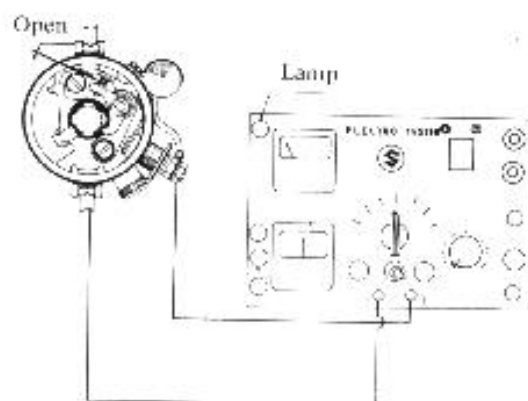

Fig. 5-17
1. As shown in the Fig. 5-17, connect an electric tester to the primary terminal of the distributor and make a conductivity test (keep the points open). When the red lamp lights up in this test, the primary circuit is considered to be grounded and rectification is required.